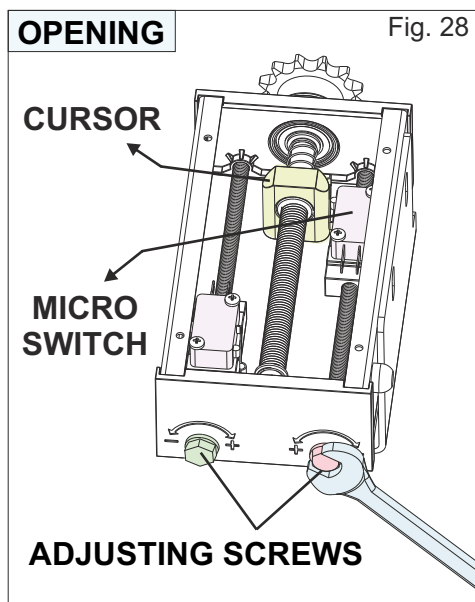

Fig. 28
- act on the adjusting screw so that the cursor can activate the contact on the microswitch (Fig. 28)